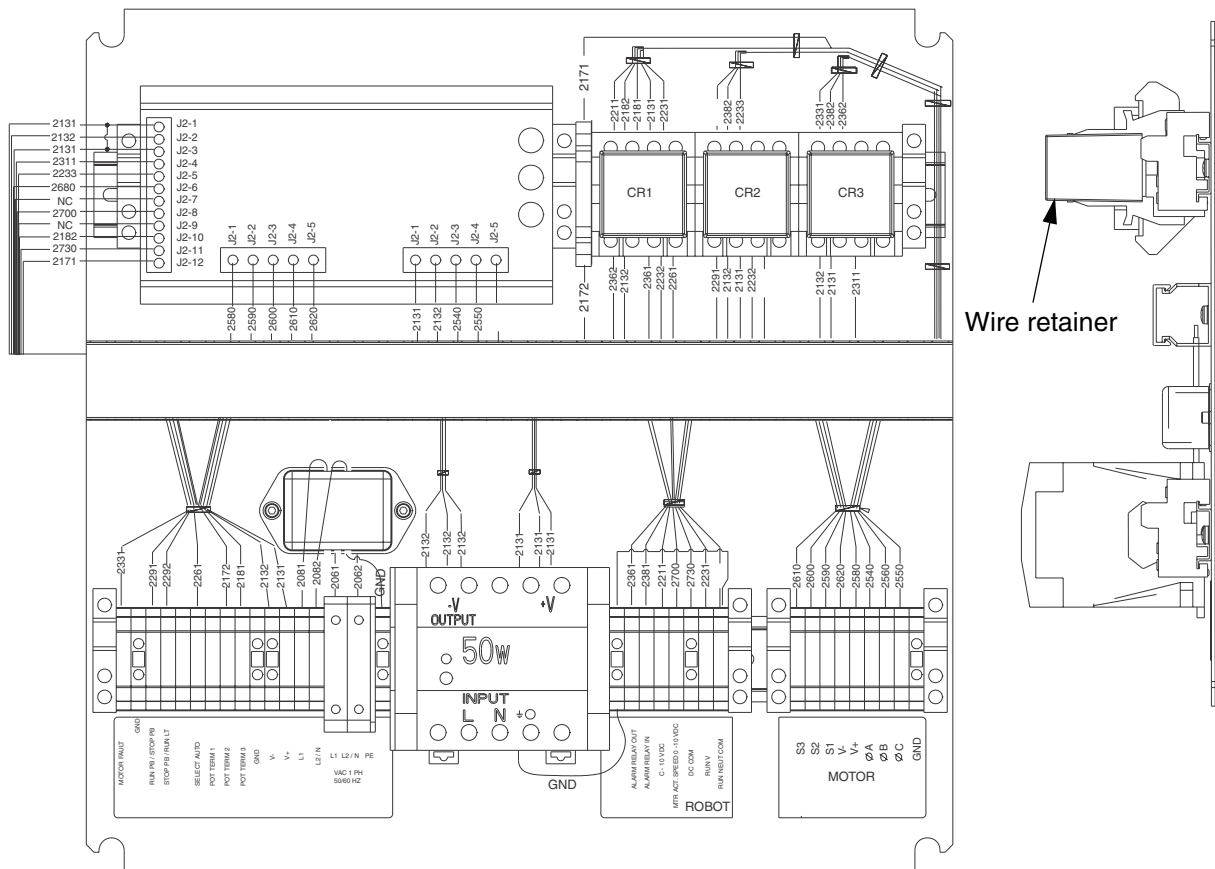

FIG. 18
- Reconnect the lead wires to the terminals on the switch. Refer to Fig. 18 to make sure that the connections are correct.
4. With force, carefully pull the top of the relay to unplug the relay from the base. See FIG. 18.
1. Match pattern on bottom side of relay to base. Plug relay into base. FIG. 18.